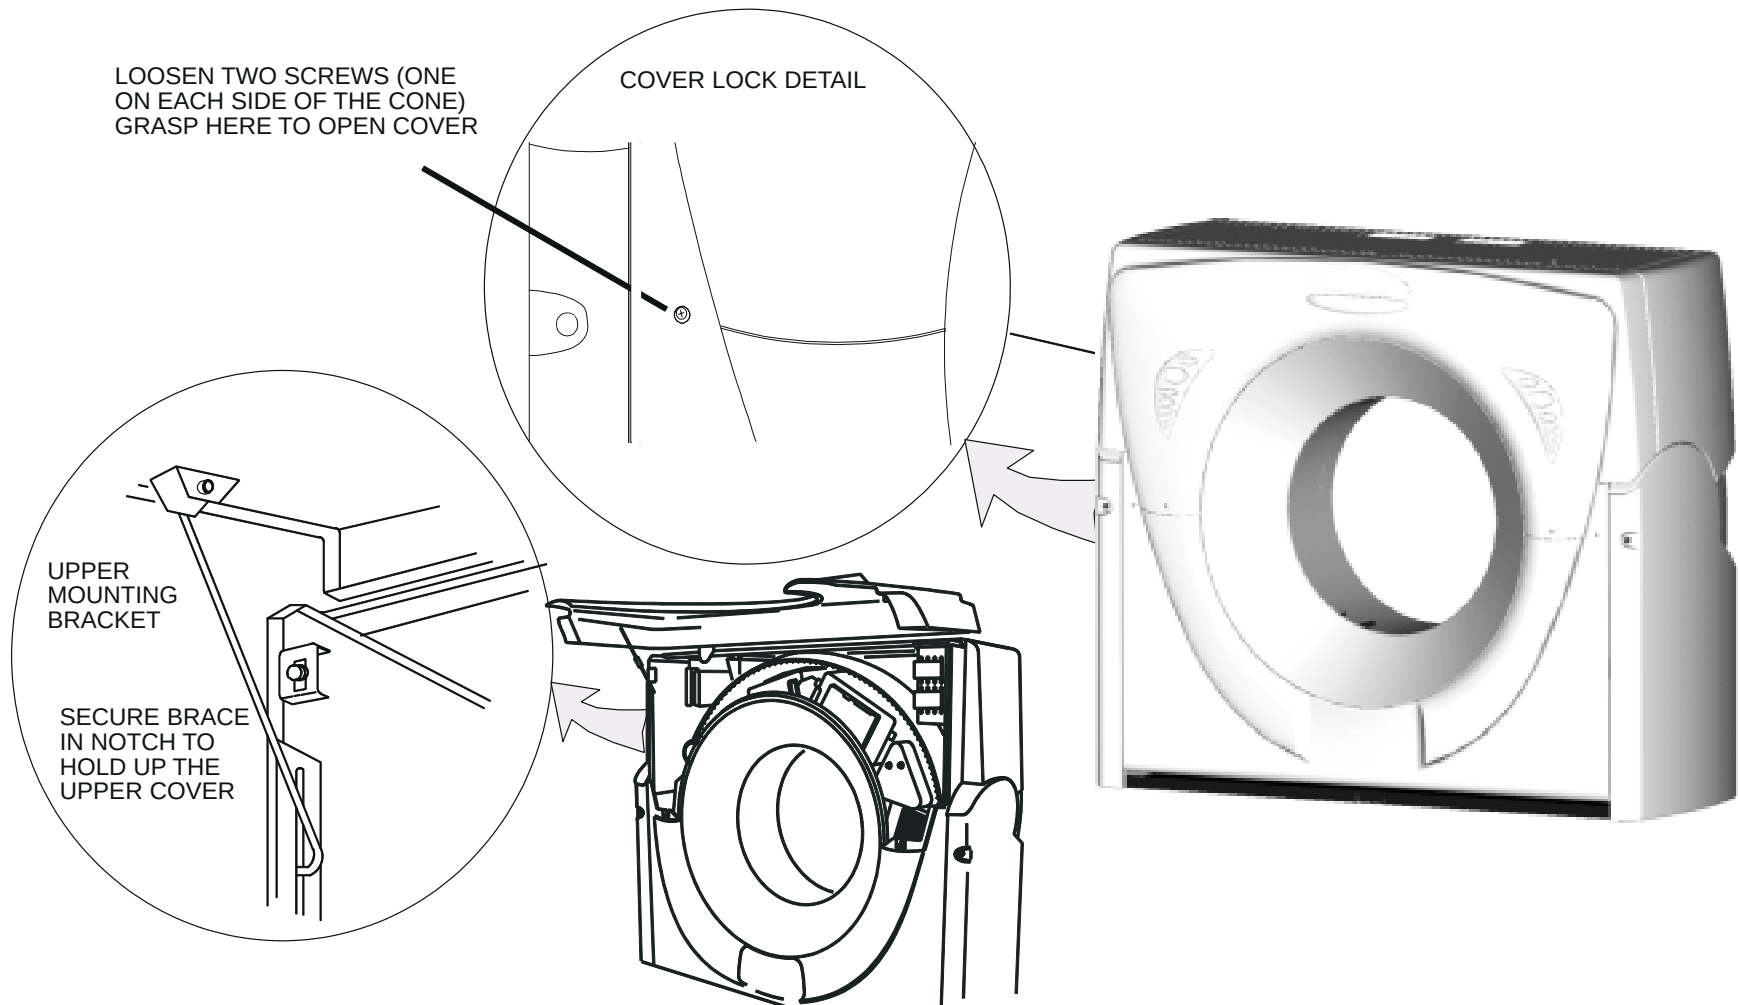

FIGURE 4 GANTRY UPPER PANEL OPENING
1. Loosen the captive screws on the front cover, lift up and secure. Refer to Figure 4.